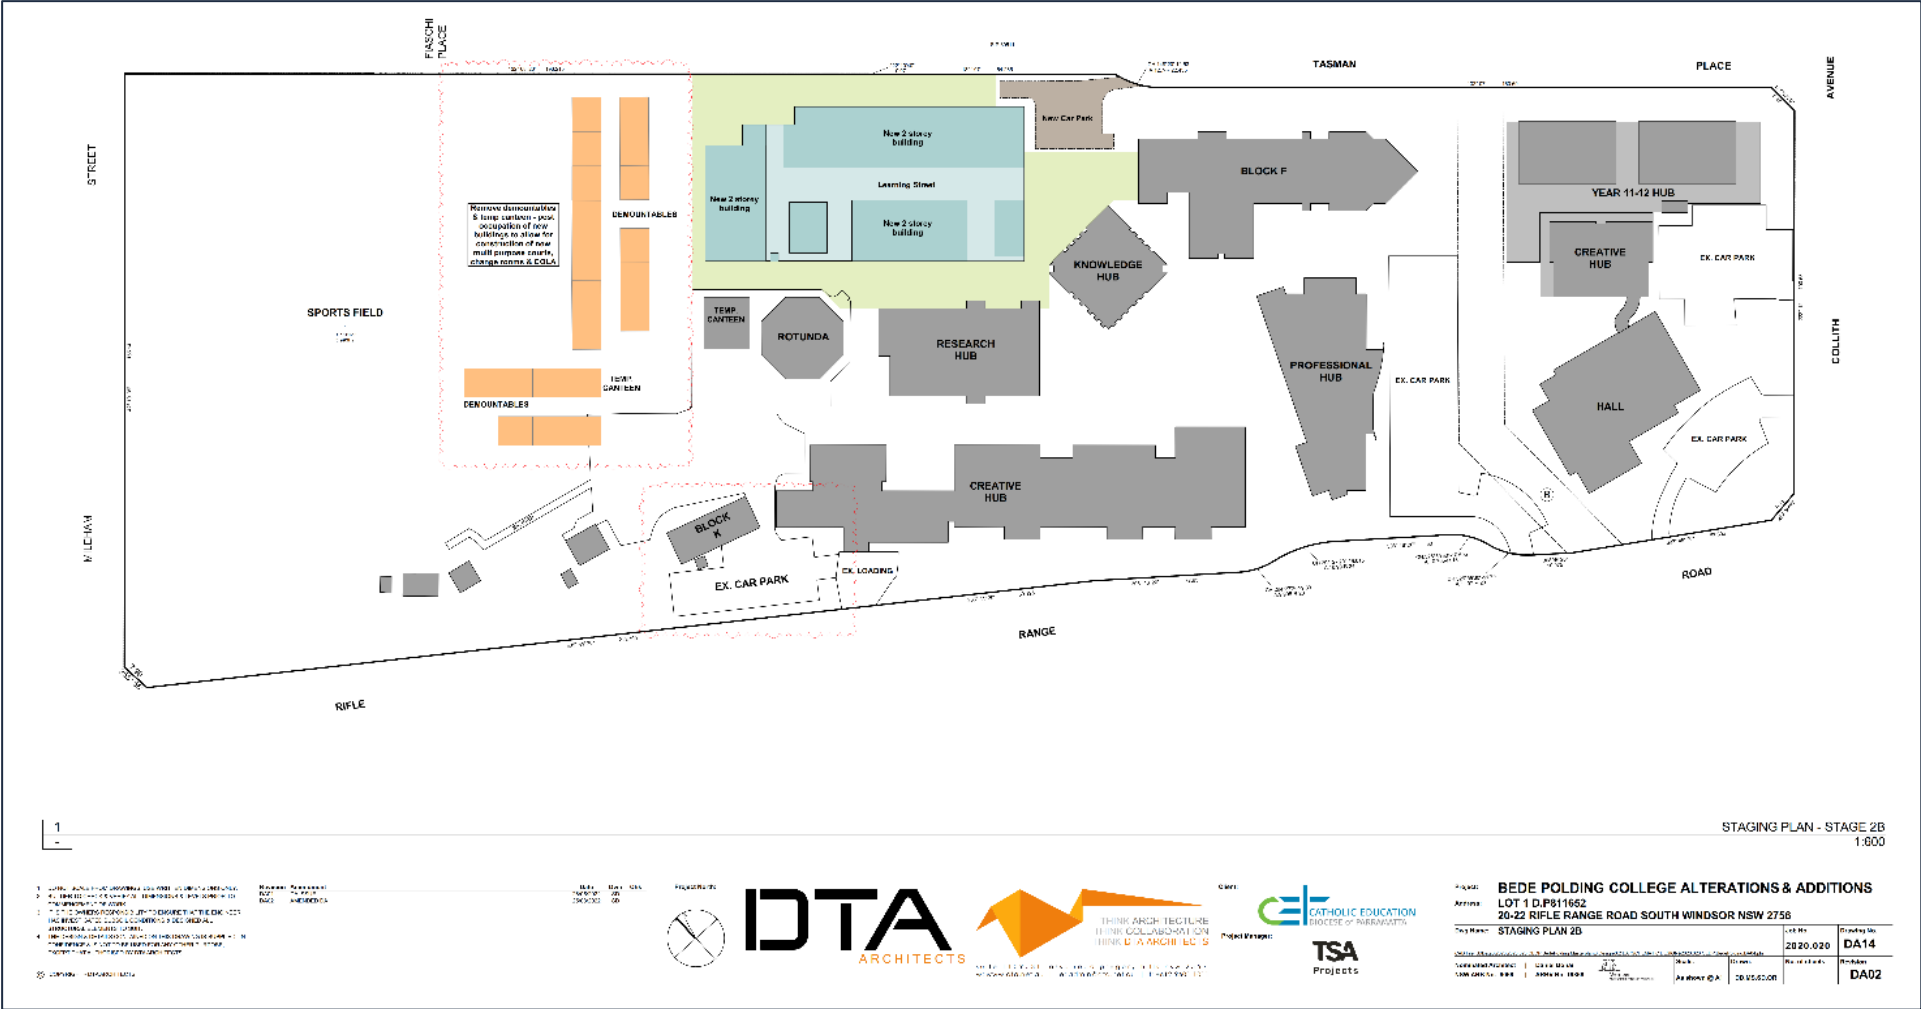

Figure 5-1 Construction Staging Plans – Stage 2B
The construction of the proposed works at Bede Polding will be divided into seven (7) stages: 1A, 1B, 2A, 2B, 2C, 3A and 3B. During stages 1A through to 2B, it is proposed to locate temporary demountable buildings on the northwest portion of the Site near the proposed sports field, as illustrated in Figure 5-1. The demountable buildings will be used as temporary classrooms and as a temporary canteen while the construction works take place. In total, the temporary classrooms could accommodate up to approximately 300-500 students depending on the stage, point in the construction period, and general variability in school usage.